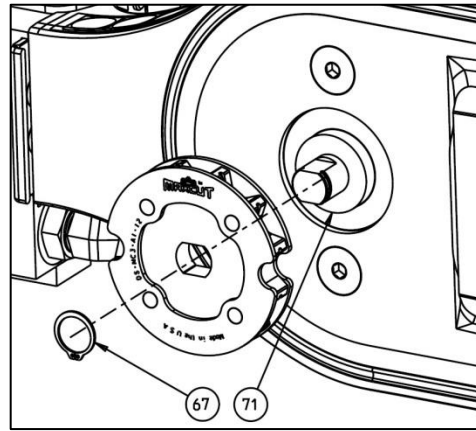

FIGURE 3
- 3.3.7. Install a new MaxCut Drive Sprocket (DS-MC3-A1-12) onto the motor shaft and secure with the Snap Ring (#67) as shown in Figure 3.